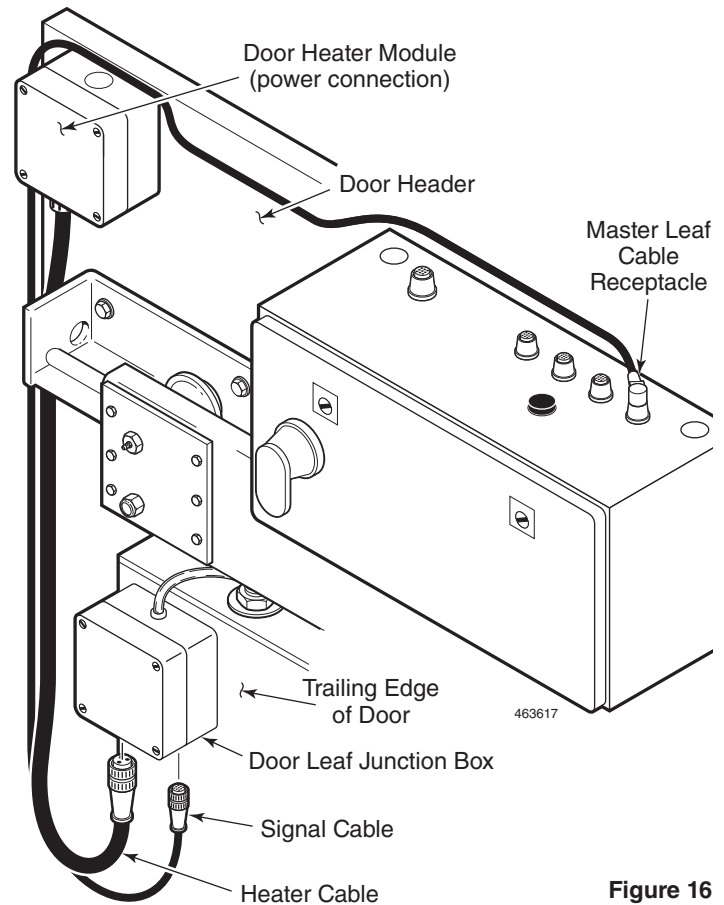

Figure 16
Single Sliding Doors only. Connect the 8-pin Signal Cable (thin cable) to the corresponding receptacle on the Door Leaf Junction Box. See Figure 16.
Bi-Parting Doors only. Connect the 8-pin Signal Cable (thin cable) twist plug to the corresponding receptacle on the Door Master Leaf Junction Box. In a similar fashion as above, connect the 4-pin Signal Cable (thin cable) to the Junction Box on the Door Slave Leaf. See Figure 16.
Freezer doors are equipped with a Door Heater Module mounted on the Door Header. Bi-Parting doors have a Door Heater Module mounted on each end of the Door Header. See Figure 16.
1. Switch off the power to the Door Heater Module(s). Connect the 3-pin Door Heater Cable(s) (thick cable already connected to the Door Heater Module), to the corresponding receptacle(s) on the Door Leaf Junction Box(es). See Figure 16.